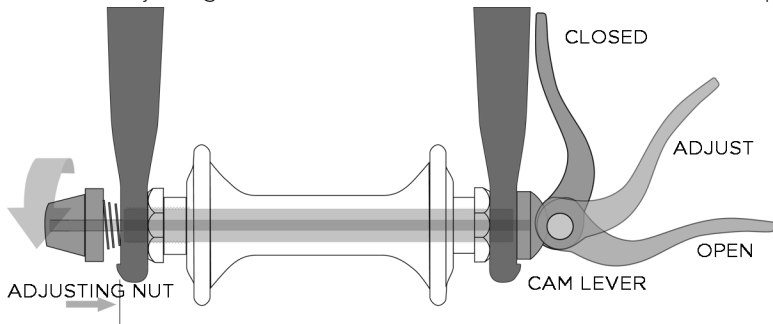

Figure 3
Cam action mechanism. The wheel hub is clamped in place by the force of the over-center cam pushing against one dropout and pulling the tension adjusting nut, by way of the skewer, against the other dropout (see Figure 3). The amount of clamping force is controlled by the tension adjusting nut. Turning the tension adjusting nut clockwise while keeping the cam lever from rotating and increases clamping force; turning it counterclockwise while keeping the cam lever from rotating reduces clamping force. Less than half a turn of the tension adjusting nut can make the difference between safe clamping
1. Move the cam lever from the locked or CLOSED position to the OPEN position (see Figure 3 on page 21).
1. Move the cam lever to the OPEN position so that it curves away from the wheel (see Figure 3 on page 21).